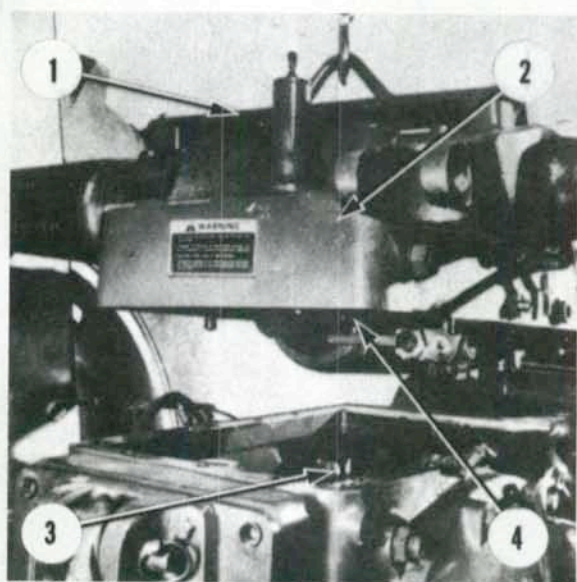

Fig. 285—When installing hydraulic lift cover, be sure that roller (4) engages draft sensing yoke (3).
Remove cap screws retaining lift cover to rear axle center housing. Attach a suitable lifting fixture (such as Ford tool No. 1302) to lift cover and use a hoist to raise and remove lift cover assembly as shown in Fig 285.
When reinstalling lift cover, be sure that the roller (4—Fig. 285) on draft and position control guide enters the draft sensing yoke (3). Tighten cover retaining cap screws to a torque of 155 ft.-lbs. (210 N·m). Complete installation by reversing the removal procedure.